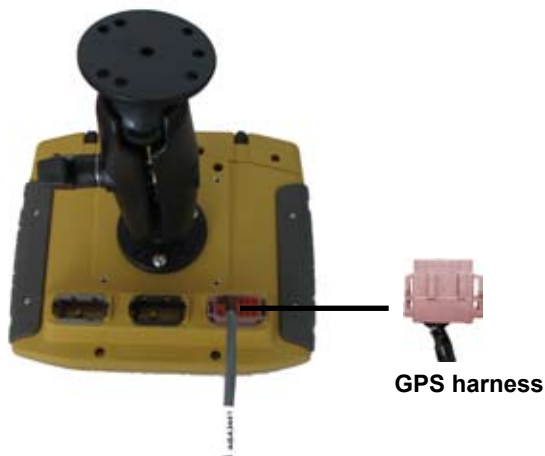

Figure 6-7. Fit GPS Harness (#AGA3441 or #AGA3242) to Color Coded Connection Port
5. Connect the Deutsch connection of the GPS harness to the color coded port on the PCS100 (figure 6-7).